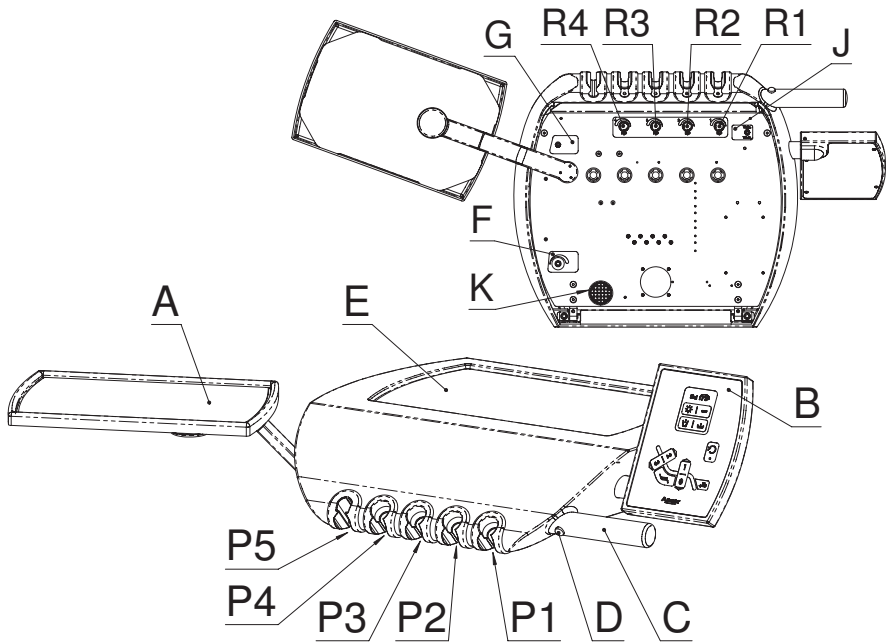

Fig. 6
The instrument tray (Fig. 6), ergonomically designed to facilitate the work by the user, is also fitted with an auxiliary instrument tray (A), a slight inclination of the main keypad (B) to provide easy viewing, and a comfortable positioning handle (C). Use the button located on the front (D) to release the pneumatic brake and to adjust the height position.